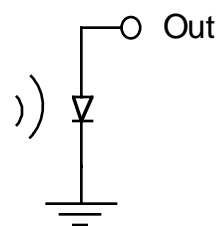

Figure 4
4) The circuit in Fig. 4 uses a silicon photodiode to detect the light from the LED. This diode has the property that it generates a current which is proportional to the incident light falling on it. The simplest, and sometimes the most sensitive way of using a photodiode is to measure the voltage developed across it by the incident light. Connect the photodiode directly to the scope probe, and point it at the LED. Be sure to keep the photodiode far enough away from the LED so that the signal does not exceed a few tenths of a volt - otherwise the forward turn-on characteristics of the photodiode may distort the signal. *Sketch the output across the photodiode. How does the signal you observe with the photodiode compare with the original signal driving the LED?* Increase the frequency of the signal generator to about 1 kHz. Does the signal you observe still have the same characteristics as observed at the lower frequency? *At what frequency does the LED seem to stop blinking, even though the wave form on the scope shows that it still is?*
The background light from the room is also detected by the photodiode. This may change its operating point, and therefore the gain of the circuit in Fig. 4. In addition, since the room lights may be modulated, the background light can cause an unwanted ac signal. *What happens to the signal as you shield the photodiode from the room lights?*